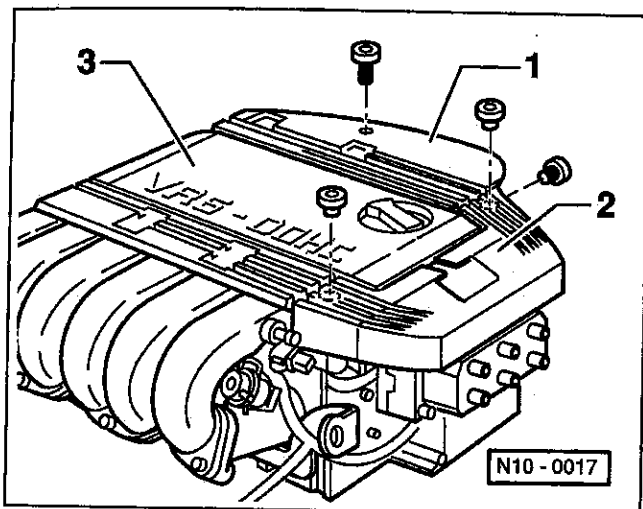

Fig. 9. Spark plug wire guides (1 and 2). Intake manifold cover shown at 3.
3. Remove the spark plug connectors from the plugs and the coil. Remove the spark plug wire guides with the ignition wires. See Fig. 9.